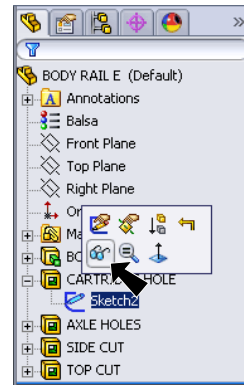

Fig. 30
Step 2. **Show Sketch** of the **Cartridge Hole Feature**. To show sketch, expand **CARTRIDGE HOLE** in the Feature Manager, click Sketch2 and click **Show**  in the menu, **Fig. 30**.